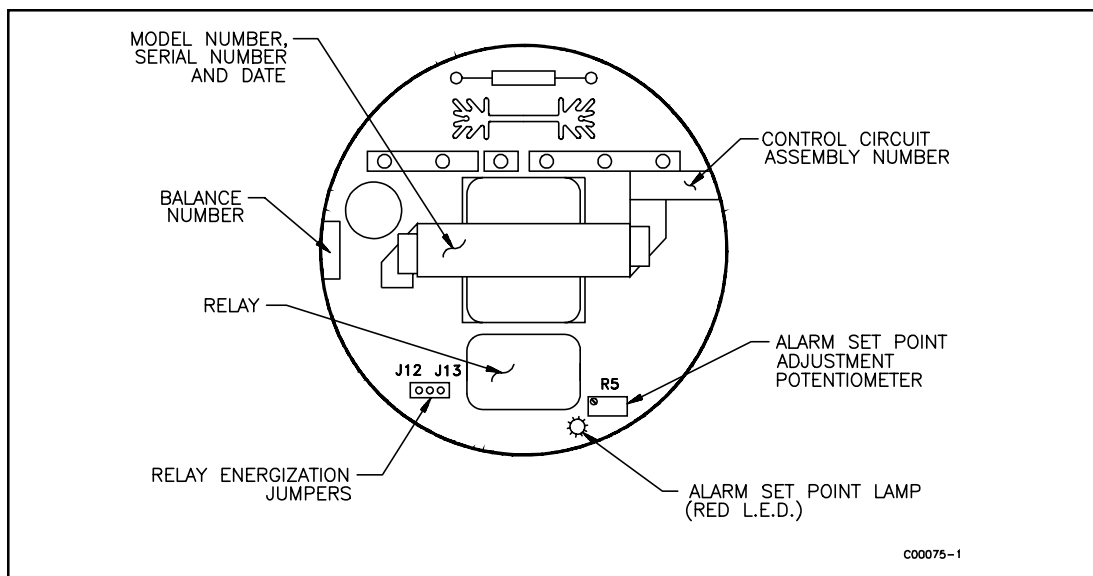

Figure 3-2. Control Circuit Outline Drawing
3. Locate the potentiometer (R5) and the red LED on the control circuit. (See Figure 3-2.)